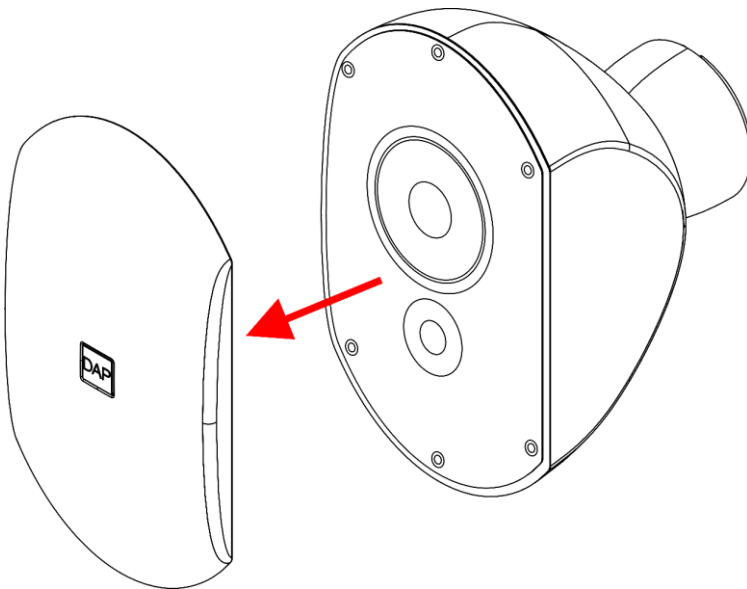

Fig. 25
- 01) Pry up the **speaker grill (01)** and remove it from the device (Fig. 25).